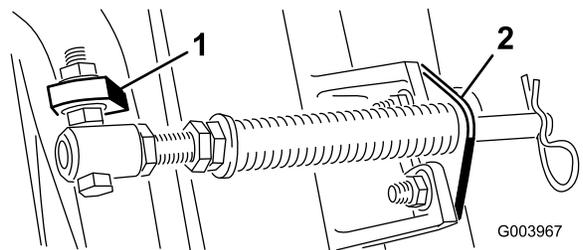

**Figure 5**
- A. Remove the 2 carriage bolts and nuts securing the rod bracket to the cutting-unit tabs (Figure 5).
- B. Remove the flange nut securing the spring tube bolt to the carrier-frame tab (Figure 5). Remove the assembly.